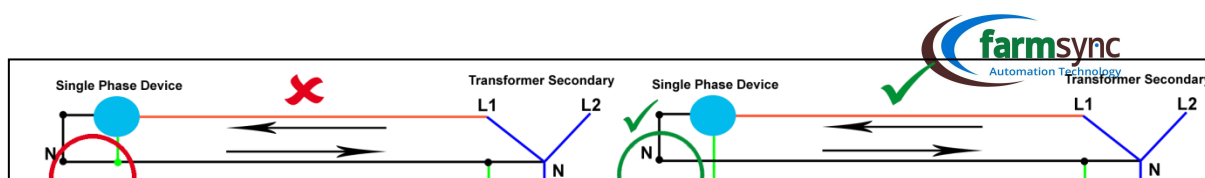

Figure 2 - Separation of Earth and Neutral Conductors
-  Separation of Earth and Neutral Conductors^{vi}. Although these two conductors are for example both joined together on the star side of a supply transformer, the Neutral is a current carrying conductor, while the earth conductor is for protection only and should be left current free^{vii} (Figure 2). Using the same conductor for both E and N will reduce the effectiveness of any surge protection installed in the system. Accidental disconnect of the conductor, if a shared conductor is used for E and N, a single phase 110 V or 220 V systems might experience a power increase up to 240 V or 400 V, which will fry your equipment.